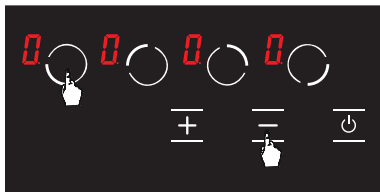

Figure 14
1. Press front left hob selection key (●) and minus key (—) simultaneously, you shall hear a short warning signal at this time. (see Fig. 14) Then, remove your fingers from the stove control panel.